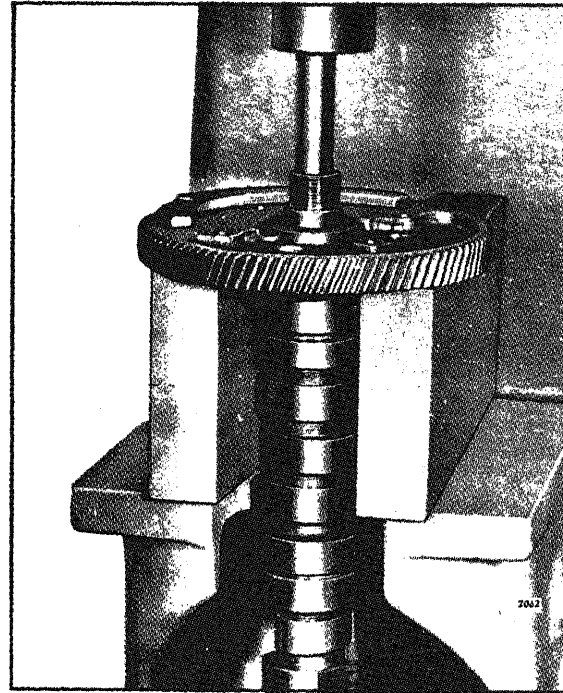

Fig. 1 - Removing Camshaft Gear
2. Place the camshaft and gear assembly in an arbor press with the gear suitably supported as shown in Fig. 1.